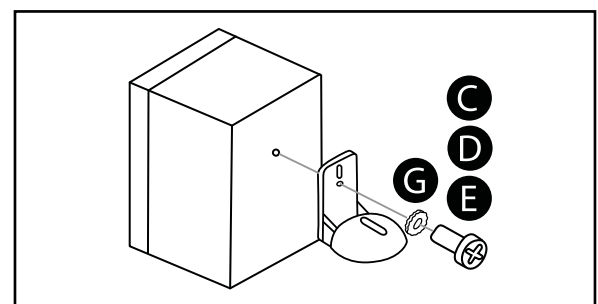

Figure 4 - Single threaded insert
C. Attaching to a Speaker with a threaded screw hole (see Figure 4)
2. Firstly choose the correct sized bolt to use that will easily screw into the space provided and hold the plate into position. We have provided 3 different size bolts to help you with this being (C) 1/4" UNC Bolt, (D) M6 6mm Bolt and (E) M5 5mm Bolt. If you can't find a matching bolt you will need to get one from your local hardware store.
3. Once you have the correct bolt insert this through a M8 8mm Washer (G) and then the Speaker plate and into the back of the Speaker. Do not over tighten.